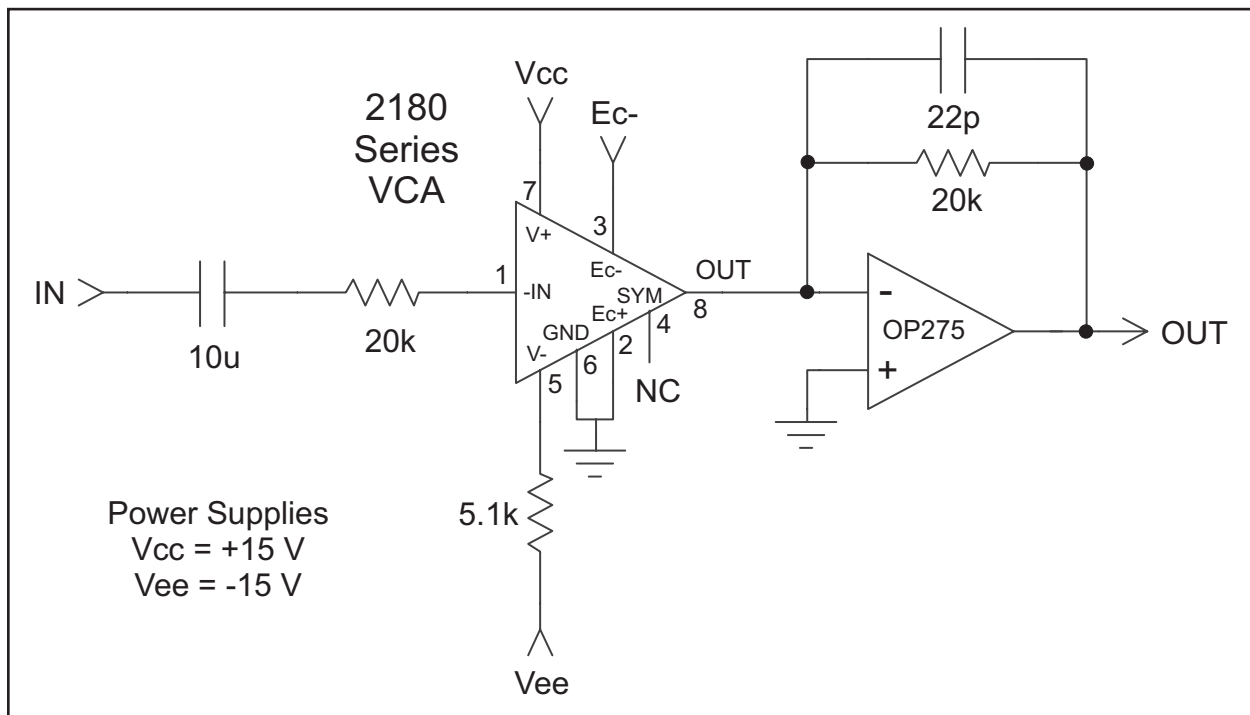
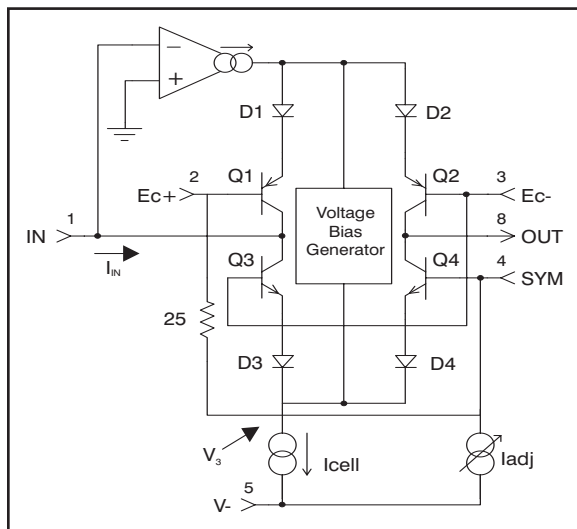
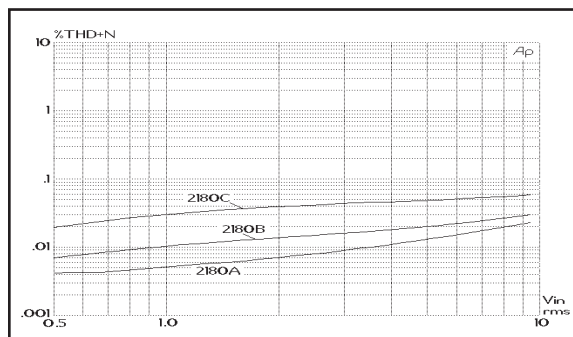
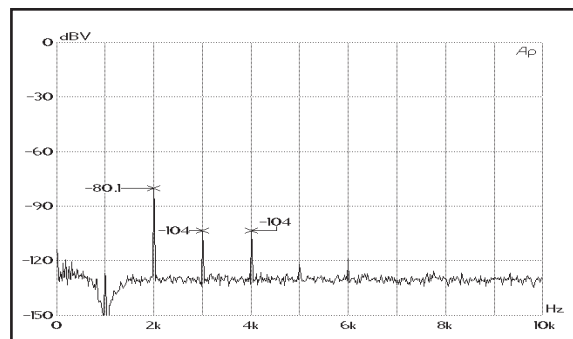

Figure 2. Typical Application Circuit
Figure 5. Simplified Internal Circuit Diagram
Figure 10. 1 kHz THD+Noise Vs. Input Level, 0 dB Gain
Figure 13. FFT of THD, 0dB gain, 1kHz, 0dBV, Typical 2180B
2. Unless otherwise noted, TA = 25°C, VCC = +15V, VEE = -15V. Test circuit is as shown in Figure 2.
Figure 5 presents a considerably simplified internal circuit diagram of the IC. The ac input signal current flows in pin1, the input pin. An internal operational transconductance amplifier (OTA) works to maintain pin 1 at a virtual ground potential by driving the emitters of Q1 and (through the Voltage Bias Generator) Q3. Q3/D3 and Q1/D1 act to log the input current, producing a voltage, V3, which represents the bipolar logarithm of the input current. (The voltage at the junction of D1 and D2 is the same as V3, but shifted by four forward  $V_{be}$  drops.)
The 2180 current consumption is determined by the resistor between pin 5 (V-) and the negative supply voltage ( $V_{EE}$ ). Typically, with 15V supplies, the resistor is 5.1 k $\Omega$ , which provides approximately 2.4 mA. This current is split into two paths: 570  $\mu\text{A}$  is used for biasing the IC, and the remainder becomes  $I_{cell}$  as shown in Figure 5.  $I_{cell}$  is further split in two parts: about 20  $\mu\text{A}$  biases the core transistors (Q1 through Q4), the rest is available for input and output signal current
recommended. In particular, the 2180 maintains low distortion over a wide range of gain, cut and signal levels. Figures 10 through 12 show typical distortion performance for representative samples of each grade of the part. Figure 13 shows the harmonic content of the distortion in a typical B-grade part.
The Input pin (pin 1) is a virtual ground with negative feedback provided internally (see Figure 5, Page 4). The input resistor (shown as 20 k $\Omega$  in Figure 2, Page 3) should be scaled to convert the available ac input voltage to a current within the linear range of the device. Generally, peak input currents should be kept under 1 mA for best distortion performance.
Figures 10 through 12 show distortion vs. Signal level for the three parts in the 2180 Series for 0 dB, +15 dB and -15 dB gain. The circuit of Figure 2, Page 3 was used to generate these curves.
A designer may trade off noise for distortion by decreasing the 20 k $\Omega$  current-to-voltage converting resistors used at the input and output in Figure 2, Page 3. For every dB these resistor values are decreased, the voltage noise at the output of the OP275 is reduced by one dB. For example, with 10 k $\Omega$  resistors, the output noise floor drops to -104 dBV (typical) at 0 dB gain — a 6 dB reduction in noise because 10 k $\Omega$  is 1/2 of (6 dB lower than) 20 k $\Omega$ .
The Output pin (pin 8) is intended to be connected to a virtual ground node, so that current flowing in it may be converted to a voltage (see Figures 2 & 14). Choose the external opamp for good audio performance. The feedback resistor should be chosen based on the desired current-to-voltage conversion constant. Since the input resistor determines the voltage-to-current conversion at the input, the familiar ratio of  $R_f/R_i$  for an inverting opamp will determine the overall voltage gain when the 2180 is set for 0 dB current gain. Since the VCA performs best at settings near unity gain, use the input and feedback resistors to provide design-center gain or loss, if necessary.